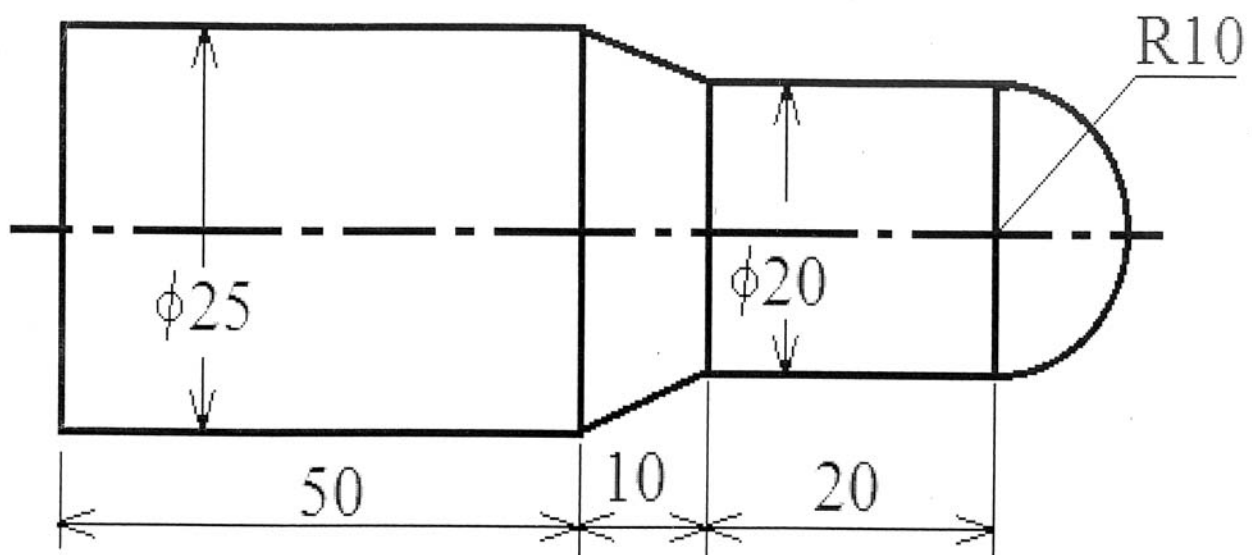

Figure . 1
- ii) Prepare a part program to machine the workpiece shown in figure 1 on CNC lathe machine.